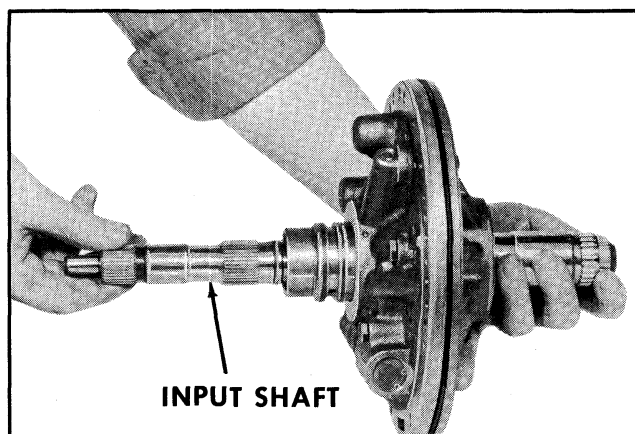

Fig. 7B-132 Installing Input Shaft Into Pump
2. Install input shaft into oil pump (Fig. 7B-132) and install oil pump (less oil seal rings, but with old or .061" thrust washer) into case.